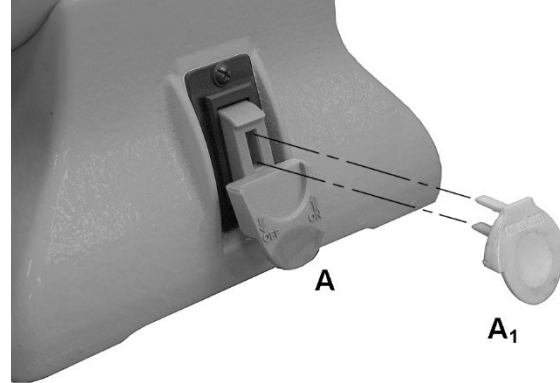

Figure 9-1: safety key
**IBGB-248, IBGB-436:** Pull paddle switch (A, Figure 9-1) to start tool, push to stop. The safety key (A1) can be removed to prevent unauthorized use of the grinder. The safety key must be inserted to restart the grinder.